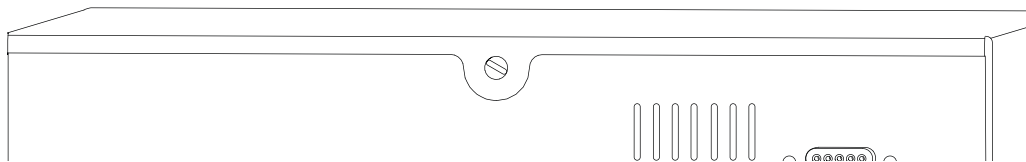

Figure 20 Lid screw
3. Remove the lid screw located on the back panel (Figure 20).